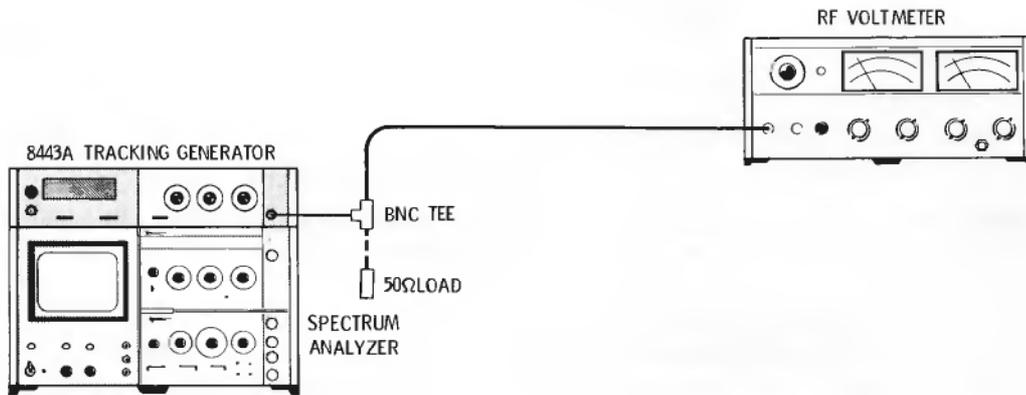

Figure 4-4. Output Impedance Test Setup
1. Connect the equipment as shown in Figure 4-4 and set the controls as follows: